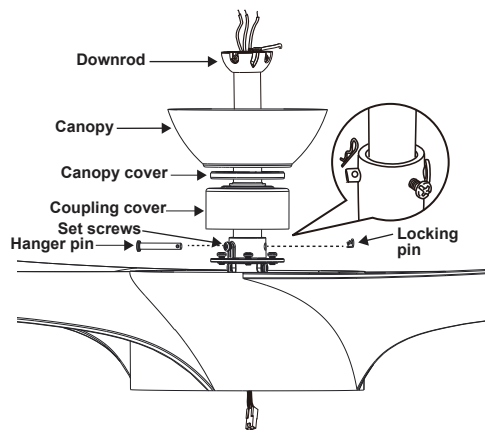

Figure 9
Step 3. Remove the hanger pin, locking pin from the downrod assembly, and remove the set screws from the top of the motor. (Fig. 9)
Step 4. Route wires exiting from the top of the fan motor through the coupling cover, canopy cover and canopy, then through the ball/downrod. (Fig. 9)
Step 5. Align the holes at the bottom of the downrod with the holes in the collar on top of the motor housing (Fig. 9). Carefully insert the hanger pin through the holes in the collar and downrod. Be careful not to jam the pin against the wiring inside the downrod. Insert the locking pin through the hole near the end of the hanger pin until it snaps into its locked position, as noted in the circle inset of Fig. 9.
Step 6. Tighten two set screws against the downrod on top of the fan motor firmly. (Fig. 9)